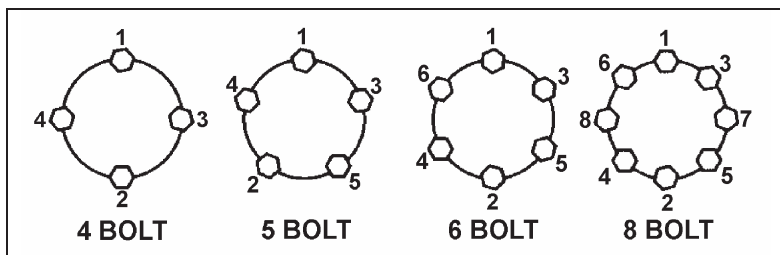

Figure 8-4 - Wheel Torque Sequence
- Tighten lug nuts in the sequence shown in figure 8-4.